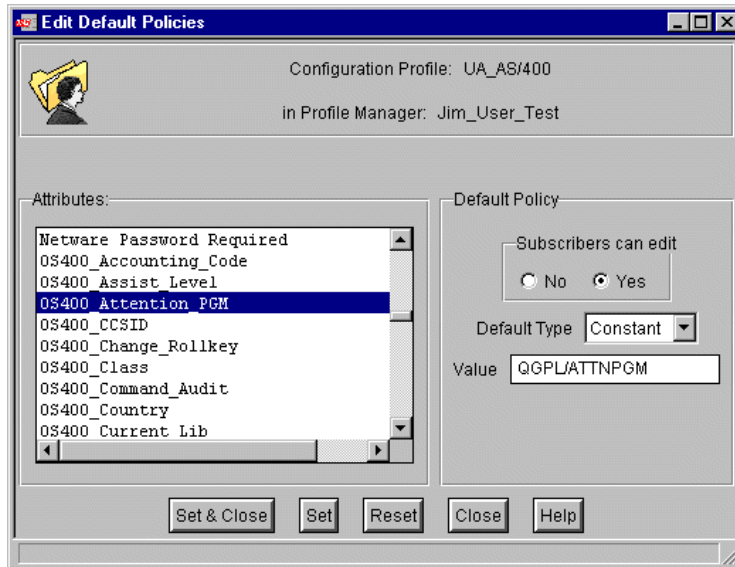

Figure 308. Select a default user profile attribute for OS/400
5. Use the scroll bar for the Attributes list to locate the OS/400 user profile attributes. We will select the **OS/400_Attention_PGM** attribute first, as shown in Figure 308 on page 475, to set the program that will run when an AS/400 user presses the attention key.